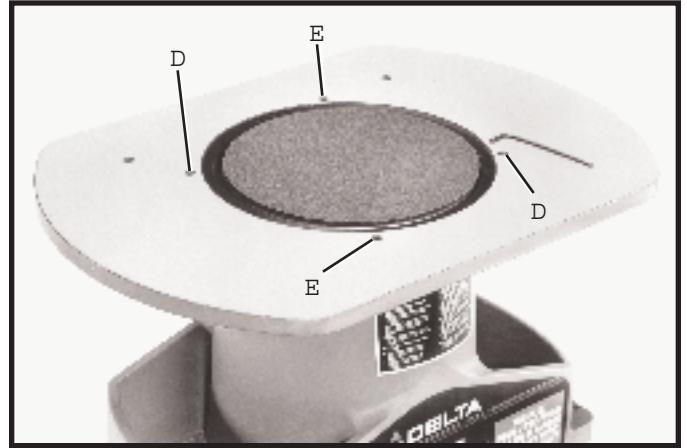

Fig. 9
3. With allen wrench supplied, tighten or loosen adjustment screws (D) and (E) Fig. 9, as necessary. Recheck the table height and repeat the adjustment if needed, until the table surface is slightly lower than the abrasive disc.